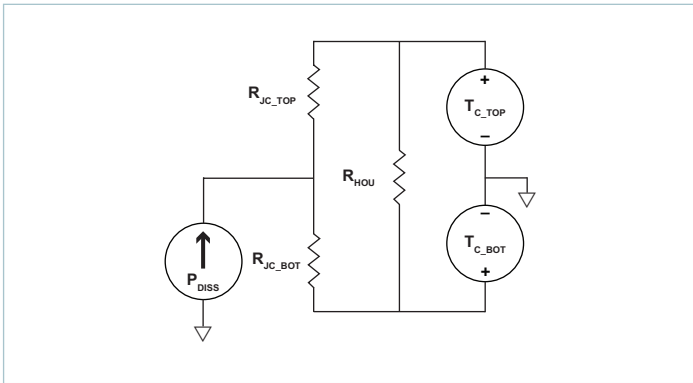
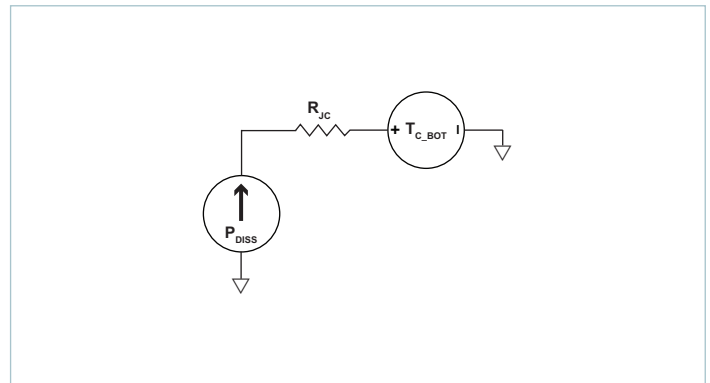

Figure 19 — Double sided cooling VIA thermal model
Figure 20 — Single-sided cooling VIA thermal model
The VIA™ package provides effective conduction cooling from either of the two module surfaces. Heat may be removed from the top surface, the bottom surface or both. The extent to which these two surfaces are cooled is a key component for determining the maximum power that can be processed by a VIA, as can be seen from specified thermal operating area in Figure 1. Since the VIA has a maximum internal temperature rating, it is necessary to estimate this internal temperature based on a system-level thermal solution. To this purpose, it is helpful to simplify the thermal solution into a roughly equivalent circuit where power dissipation is modeled as a current source, isothermal surface temperatures are represented as voltage sources and the thermal resistances are represented as resistors. Figure 19 shows the “thermal circuit” for the VIA module.
- Single side cooling: the model of Figure 19 can be simplified by calculating the parallel resistor network and using one simple thermal resistance number and the internal power dissipation curves; an example for bottom side cooling only is shown in Figure 20.